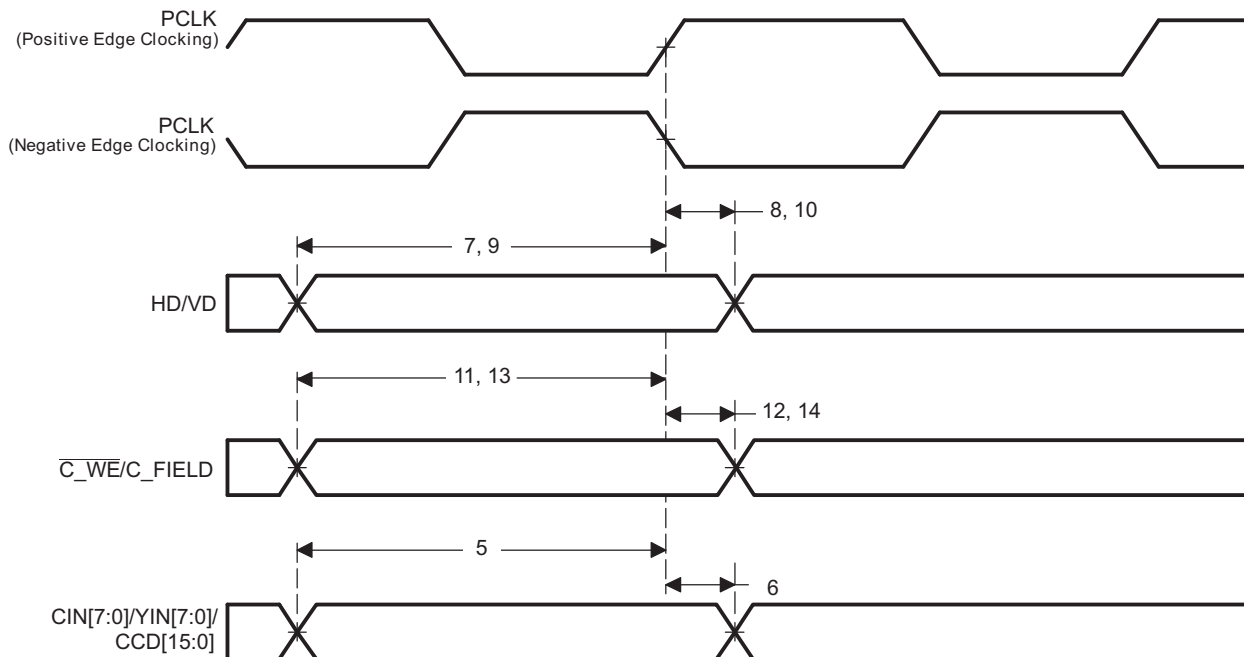

Figure 6-32. VPFE (ISIF) Slave Mode Input Data Timing
**Table 6-45. Timing Requirements for VPFE (ISIF) Slave Mode (see Figure 6-32)**